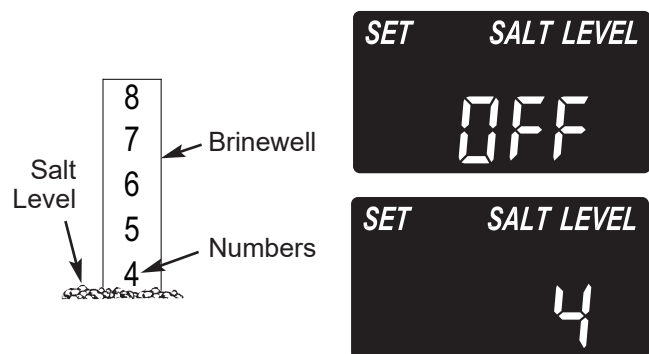

FIG. 22
2. The salt level scale, on the brine well inside the tank, has numbers from 0 to 8 (See Fig. 22). Observe the highest number the leveled salt is at, or closest to.